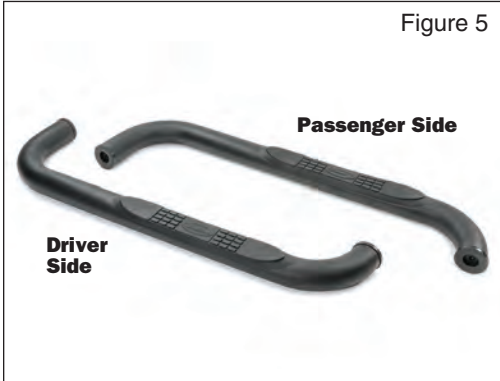
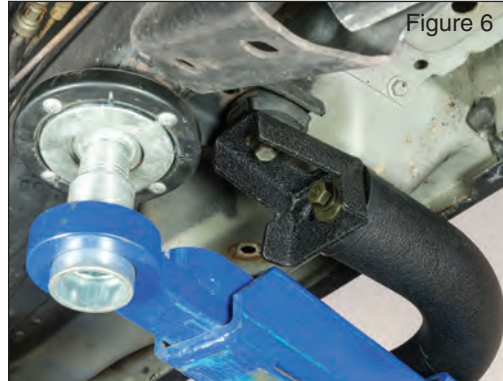

Figure 5: Note Side Tube Step Orientation
Figure 6: Tube Step Attachment Shown
Locate the driver's side tube step (A). The front of the tube step will have the longer leg of the bar facing forward (Fig 5). Using a 3/4" box end wrench, install the supplied 12mm bolt (D), 12mm lock washer (F) and 12mm flat washer (E) to front of the tube step to front mounting bracket (Fig 6). Hand tighten only.